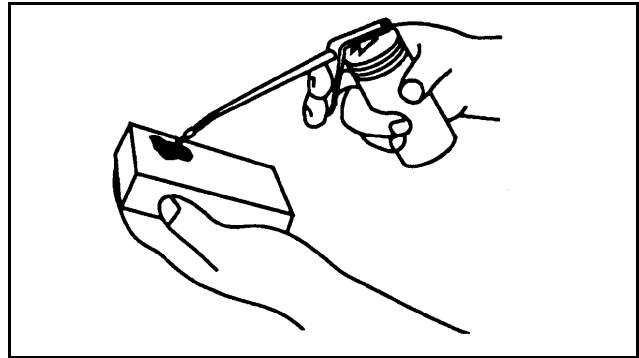

Figure 3
3. Apply one tablespoon SAE 30 or similar oil to the air filter (see Figure 3). Lightly squeeze filter until oil is distributed evenly throughout the filter. Blot lightly with paper towel to remove excess oil. Replace filter with cleanest side facing carburetor.